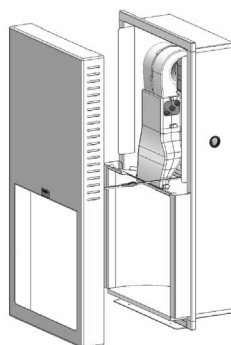

Fig. 2
3. Unplug the sensor wires from dryer to separate dryer cover from cabinet and set aside. (See Fig. 2)